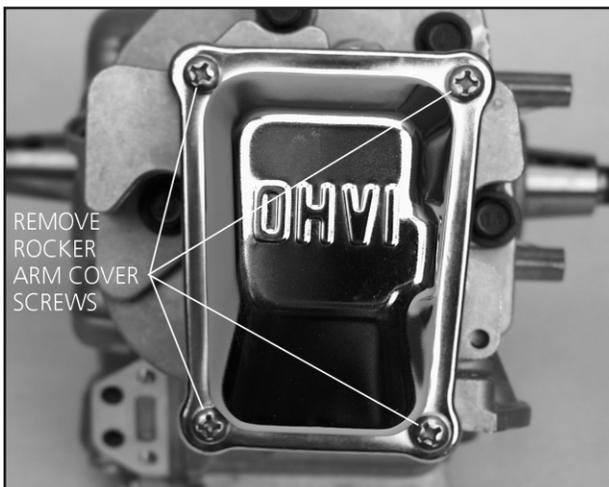

Figure 9.2 — Removal of Rocker Arm Cover
1. Remove the oil breather tube. Remove the four M6-1.00 x 12mm screws. Then, remove the rocker arm cover (see Figure 9.2).